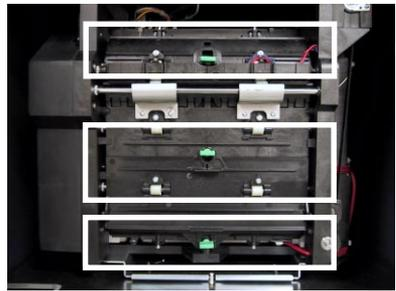

Fig. 7-4. Location of upper, middle and lower access doors.
3. Locate the lower, middle and upper access doors, as shown in Figure 7-4. These doors allow you to check for jammed notes at key points in the feed path. Another door is located on the inside of the dispenser, and is accessible when the note and reject cassettes have been removed, as shown in Figure 7-5.